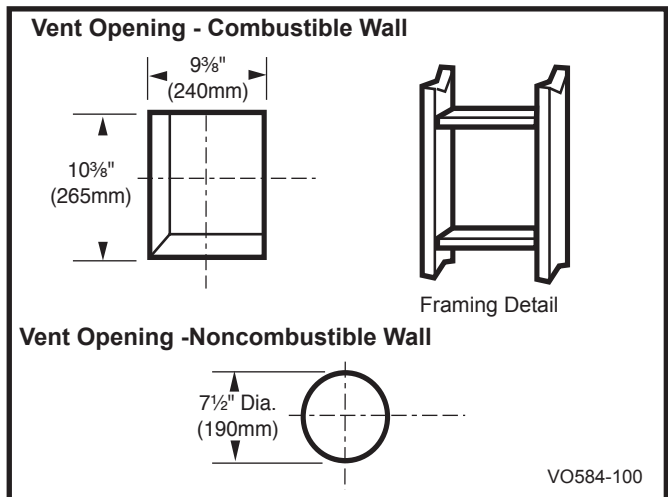

Fig. 17 Locate vent opening.
2. Locate the vent opening on the wall. Refer to Figures 17, 18 & 19 to determine the top of the opening
centerline. It may be necessary to first position the stove and measure to find the hole location. Depending on whether the wall is made of combustible materials, cut the opening to the size shown in Figure 17. Combustible wall openings must be framed as shown in Figure 17.